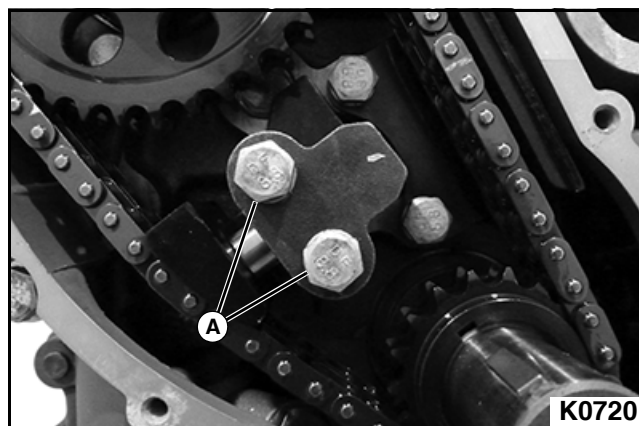

Figure 3-186
2. Install the timing chain tensioner to the cylinder block secure with two bolts, lock washers, and flat washers (A). **See Figure 3-186.**